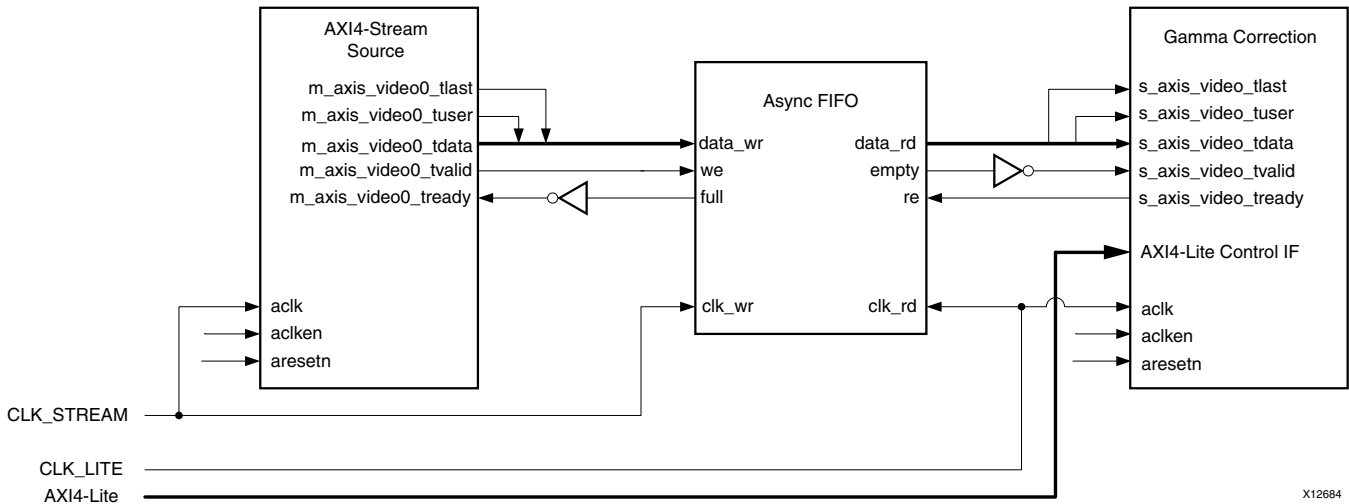

Figure 4-3: Gamma Correction core Top-Level Signaling Interface
- ( $F_{CLK\_STREAM} < F_{CLK\_LITE}$ ) then clock-domain crossing logic needs to be inserted before the AXI4-Stream interface, and the Gamma Correction core needs to be clocked at the AXI4-Lite clock via the `ACLK` pin, as shown in Figure 4-3. Alternatively, if  $F_{CLK\_LITE}$
In either case, Xilinx System Integrator tools, such as EDK, can automatically infer clock-domain crossing logic using the AXI interconnect core, when the tool detects that the master / slave side of AXI4 interfaces operate on different CLK rates. For manual instantiation of clock-domain crossing logic, HDL users can take advantage of the FIFO Generator IP core, as shown in Figure 4-3.